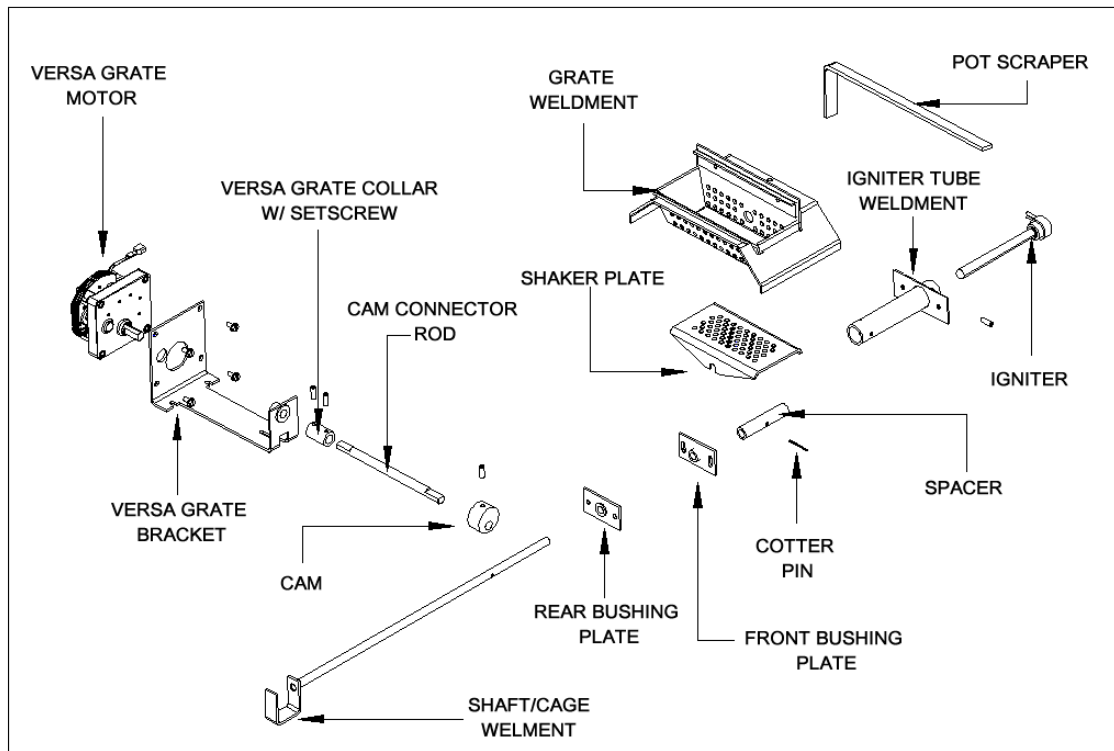

Figure 25
The benefit of this feature is that the stove can operate for longer periods of time, with most fuels, without the grate requiring cleaning. If the flame becomes dark orange, is accompanied by black smoke or burns with a lazy motion - it's time to clean the grate **When you first operate your stove or whenever you change fuels check to determine needed cleaning frequency.** (See Figure 25).
First, let's become familiar with the burn system in a St. Croix Pellet stove. Remember, cleaning frequency may change dramatically from one fuel to another. Pellets with high ash content or that have increased amounts of impurities or high moisture content. Every St. Croix Pellet stove model will have the same system as shown in figure 25 below. There is a 2-piece burnpot. The top Part is called the **"Grate Weldment"**. This sits on top of the **"Shaker Plate"**. This in turn sits on top of the **"Shaft/Cage Weldment"** and is held in place with the **"Spacer"** & **"Self Locking Twist pin"**. The Shaft/Cage weldment is moved towards the front of the stove and then towards the back of the stove by the **"Cam"** that is connected to the **"Versa Grate Motor"**. This motion is constant, while the stove is in operation.
- d. Use the “scraper” provided to move the burning pellets to one side of the grate, leaving the ash in the bottom of the grate. (See Fig 25)